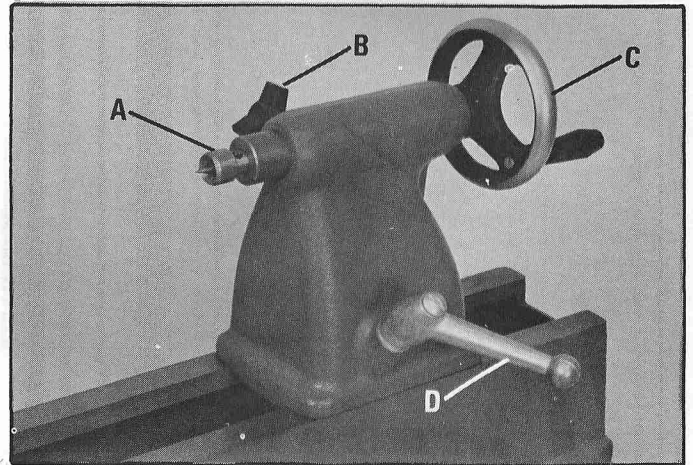

Fig. 24
To slide the tailstock along the lathe bed, loosen lock handle (D) Fig. 24, slide tailstock to desired position and tighten lock handle (D). To move the ram (A) Fig. 24, in or out, loosen lock knob (B) and turn handwheel (C). When ram is in desired position, tighten lock knob (B).